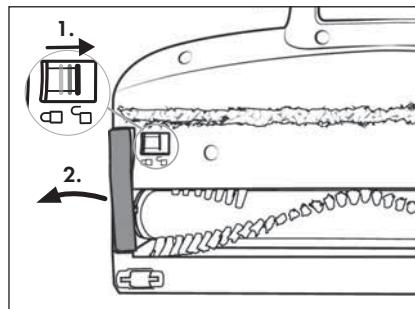

Fig. 24
- Clean the rotary brush ⑩ regularly to ensure proper operation of the appliance and avoid malfunctions.
- 1) Remove the floor brush ⑪ from the suction pipe ⑬ or from the appliance (see section **Dismantling the appliance**). Turn the floor brush ⑪ upside down.
- 2) Unlock the rotary brush ⑩ by sliding the rotary brush release ⑯ with your finger towards the symbol ⑫ (open). Remove the rotary brush holder ⑯ from the floor brush ⑪ (see Fig. 24).